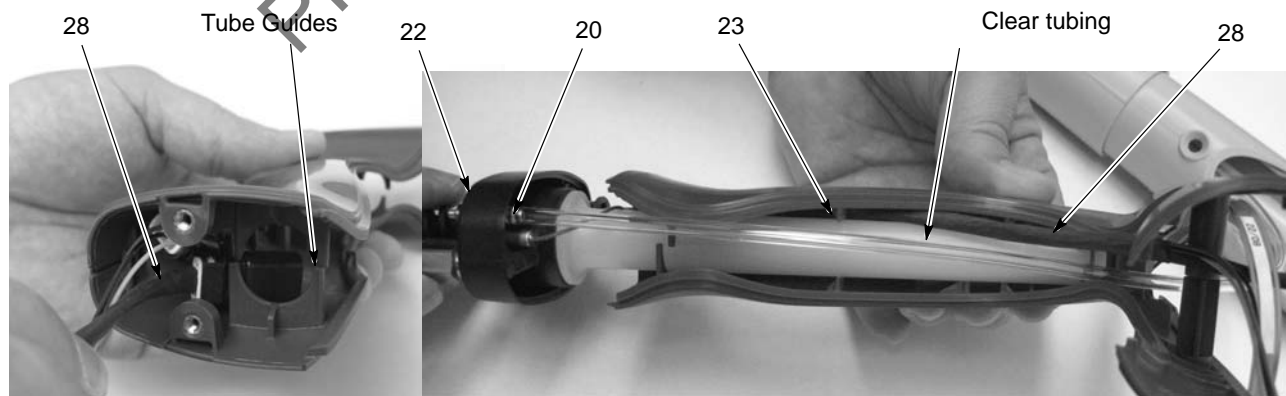

Figure 9 Handle Assembly
2. See Figure 9. Feed the cable (28) connectors into the bottom front of the handle, then slide the inlet tube (23) through the tube guides while routing the cable (28) out the top of the handle. Leave the base about 1.5-2 inches from the bottom of the handle.
3. Route the 4-mm clear tubing from the gun body through the handle and connect it to the barbed fitting (20) in the base, if previously disconnected.